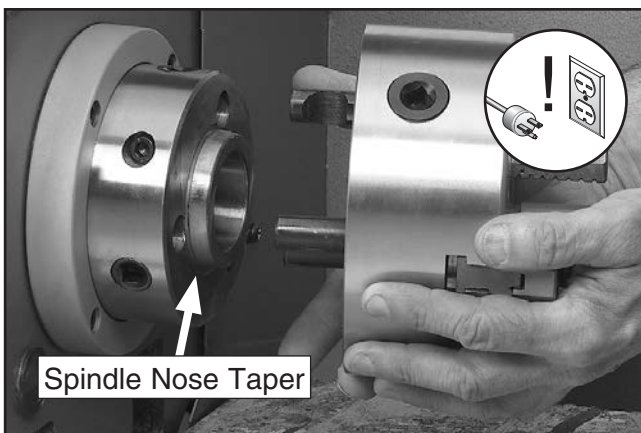

Figure 21. Installing and removing a typical camlock style chuck.
5. Use a rocking motion to carefully remove the chuck from the spindle (see **Figure 21**).